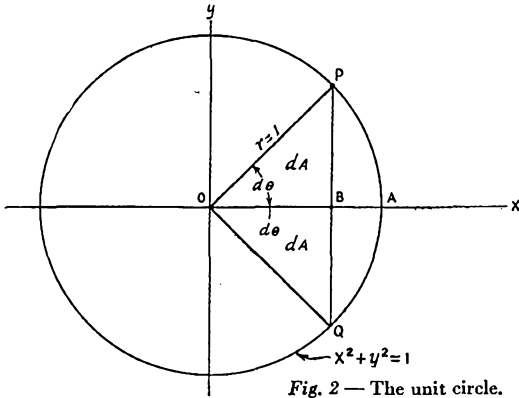

Fig. 2 — The unit circle.
Fig. 2 shows a circle of radius 1 whose center is at the origin of the coördinate axis. Its equation is that of (1). The area  $POQA$  will be twice the area of  $POA$ . Let us call this new area  $du$ . From equation (8),